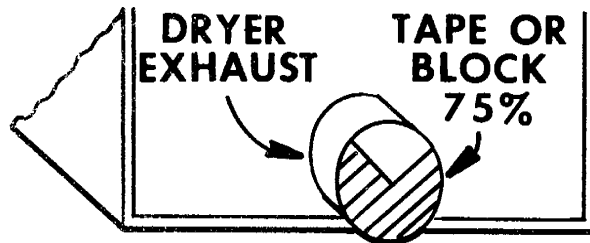

Figure 16
4. Disconnect exhaust duct and block off or tape over 75% of the dryer exhaust opening to simulate a clothes load, Figure 16.